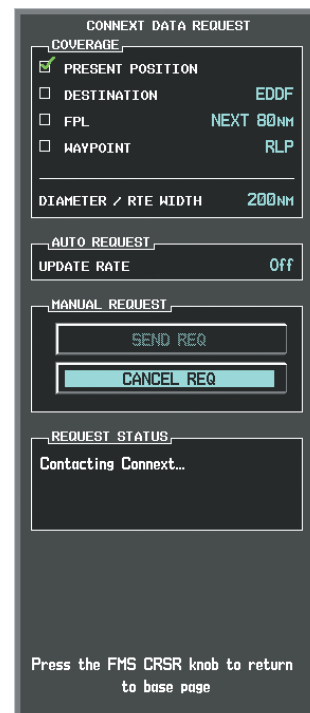

Figure 6-65 Connex Data Request Window
- 4) Turn the large **FMS** Knob to highlight the desired coverage option(s) and press the **ENT** Key to add or remove a check from one of more of the following coverage selections (Figures 6-65, 6-66):